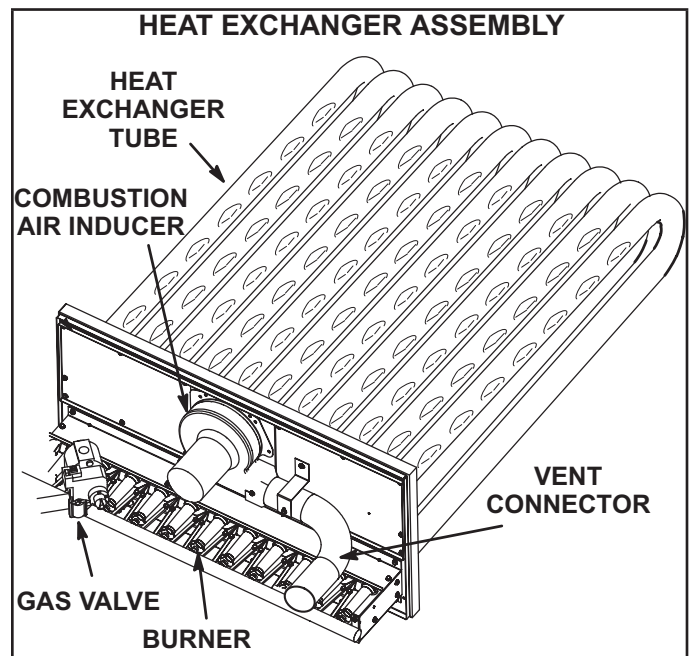

FIGURE 41
- 3 - Remove and retain screws securing combustion air inducer to flue box. Remove and retain two screws from bracket supporting vent connector. See FIGURE 41.